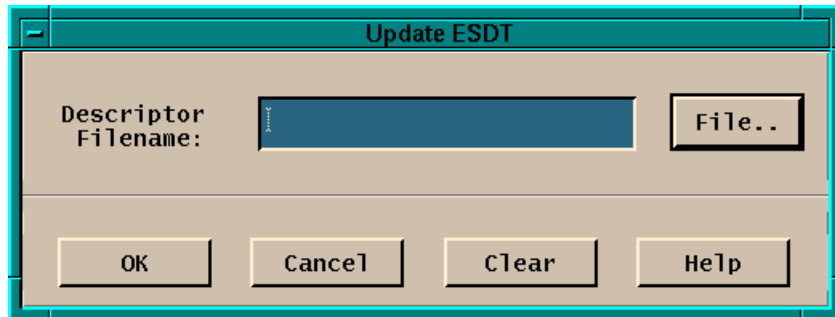

Figure 26.28.5-3. Science Data Server - Update Data Type Dialog
- **Update** opens the Update ESDT Dialog (see Figure 26.28.5-3) which is used to update a ESDT to the installed list of data types based upon input information. The SDSRV GUI provides the capability to update multiple ESDTs at one time. The Science Data Server needs to be running in **Maintenance mode** to accept this operation. Click on the **File...** button to display a list of descriptor filenames to choose from instead of typing them in. Multiple descriptor files can be selected. Click the **OK** button to update the data type. If no error messages appear, then the operation has been successfully completed. Click the **Cancel** button to close the dialog without performing an operation. Click the **Clear** button to start all over again the process of filling in new information. Click the **Help** button to display on-line help information.